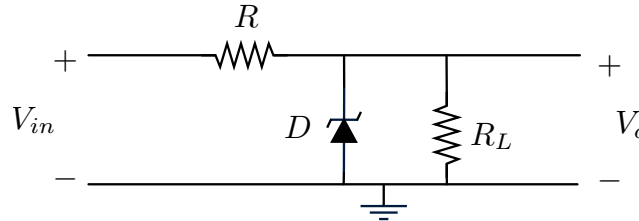

Figure 3: Circuit for Question A.4.
- A.4.a) Consider the circuit in Fig. 3, where the Zener diode has $V_z = 5V$, and the supply voltage is $V_{in} = 9V$. Design R so that the current is limited to 20mA when there is no load (i.e., $R_L = \infty$). (3 pt)